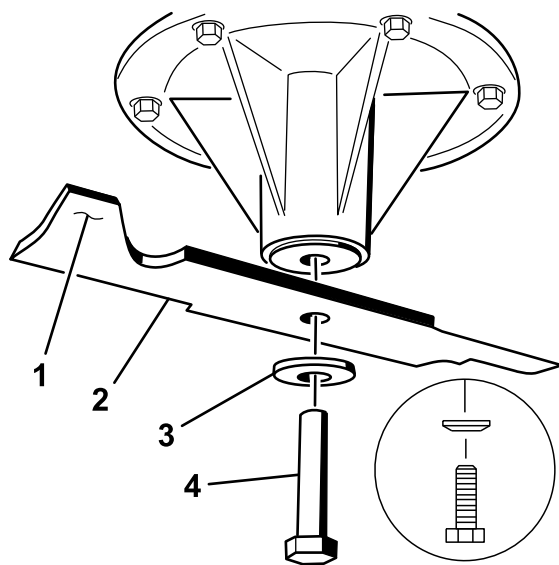

Figure 101
3. If the blade is not balanced, file some metal off the end of the sail area only (Figure 101).
1. Install the blade onto the spindle shaft (Figure 101).
2. Install the spring disk and the blade bolt. The spring disk cone must be installed toward the bolt head (Figure 101). Torque the blade bolt to 115 to 150 N·m (85 to 110 ft·lb).